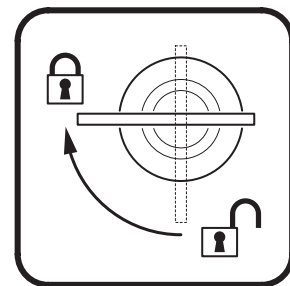

Figure 7: Locking 1/4-turn fasteners
4. Align a clamp with 2 mounting points in the base. See Figure 7. Insert the fasteners into the base and turn both levers a full 1/4-turn clockwise to lock. Install the second clamp.